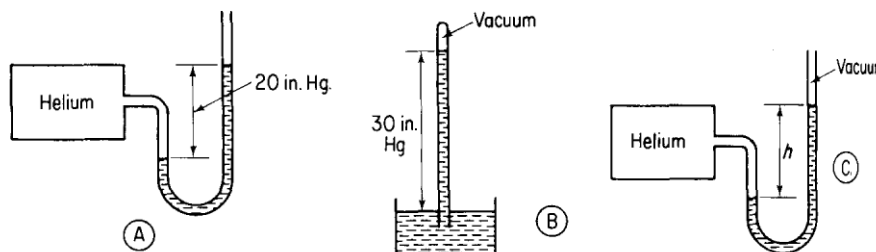

Figure SAT5.2P2A
- a. What kind of pressure is measured by the device in Figure SAT5.2P2A?
- b. What kind of pressure is measured by the device in Figure SAT5.2P2B?
- c. What would be the reading in Figure SAT5.2P2C assuming that the pressure and temperature inside and outside the helium tank are the same as in parts (a) and (b)?